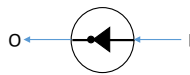

Figure 4: Inverter Node
- We define the *inverter node* in Figure 4 to have 1 input (**I**) and 1 output (**O**). The node negates the input token (i.e.,  $O = !I$ ).